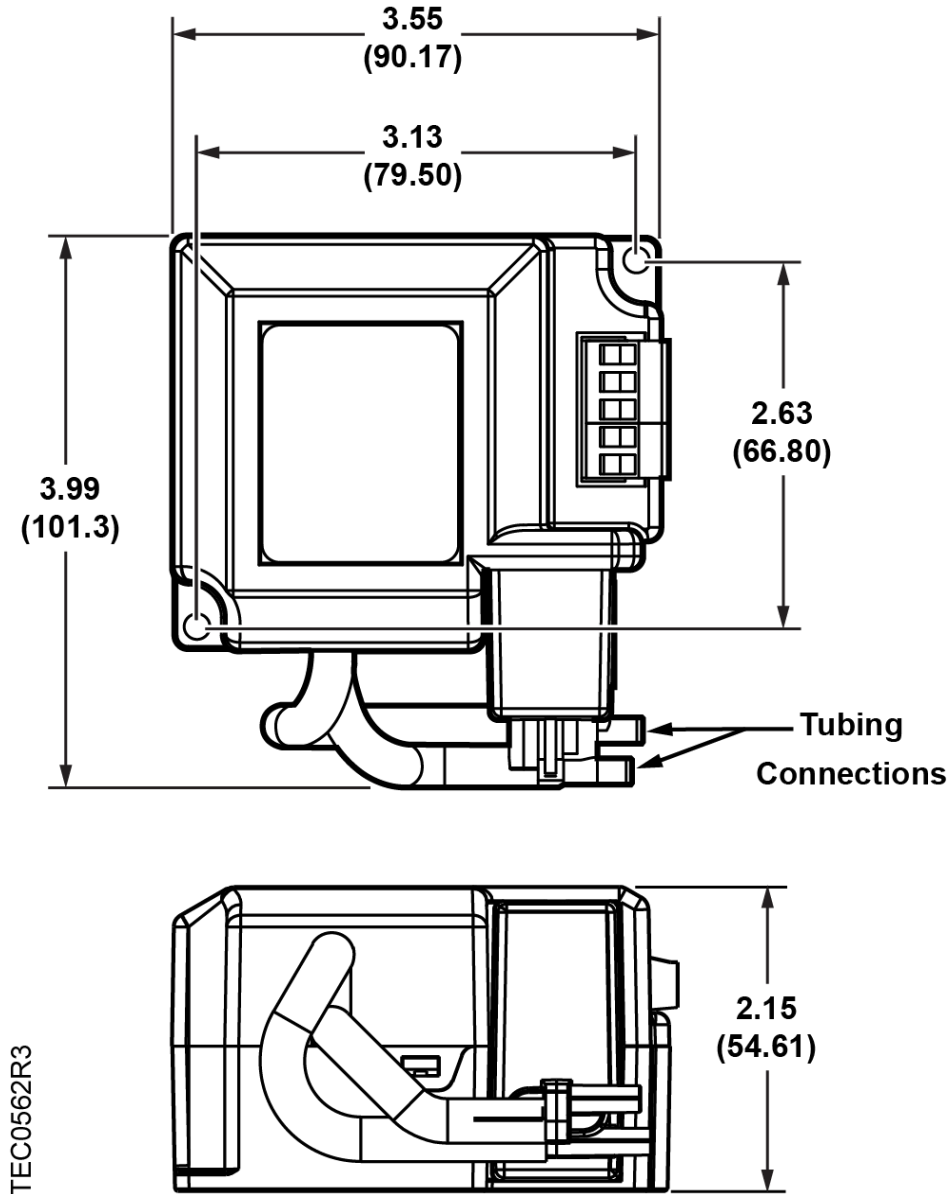

Figure 3. 550-818B and 550-819B Dimensions in Inches (Millimeters).
1. Using appropriate screws for the mounting surface, install the Offboard Air Module in any orientation. See Figure 3 for dimensions.